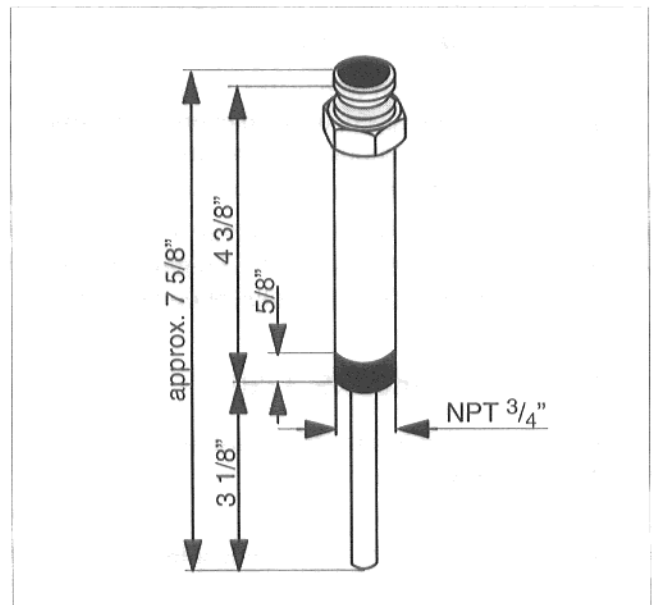

Fig. 20 3/4" Std. Ext. Shank
- The immersion well for the aquastat is installed in the factory (Fig. 20).